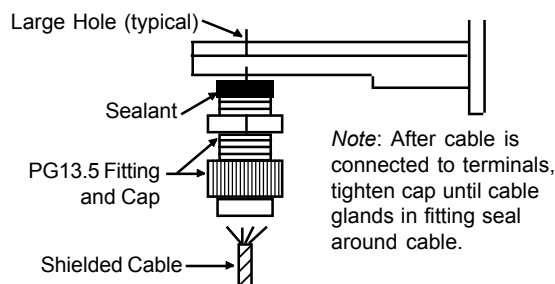

Figure 4-17. Inserting Shielded Interconnect Cable through PG13.5 Fitting and Cap
- Non-conduited installation — See Figure 4-17. Spread a generous bead of sealant around the sides of the PG13.5 cable fittings. Install the fittings in the two large holes in the bottom of the junction box.